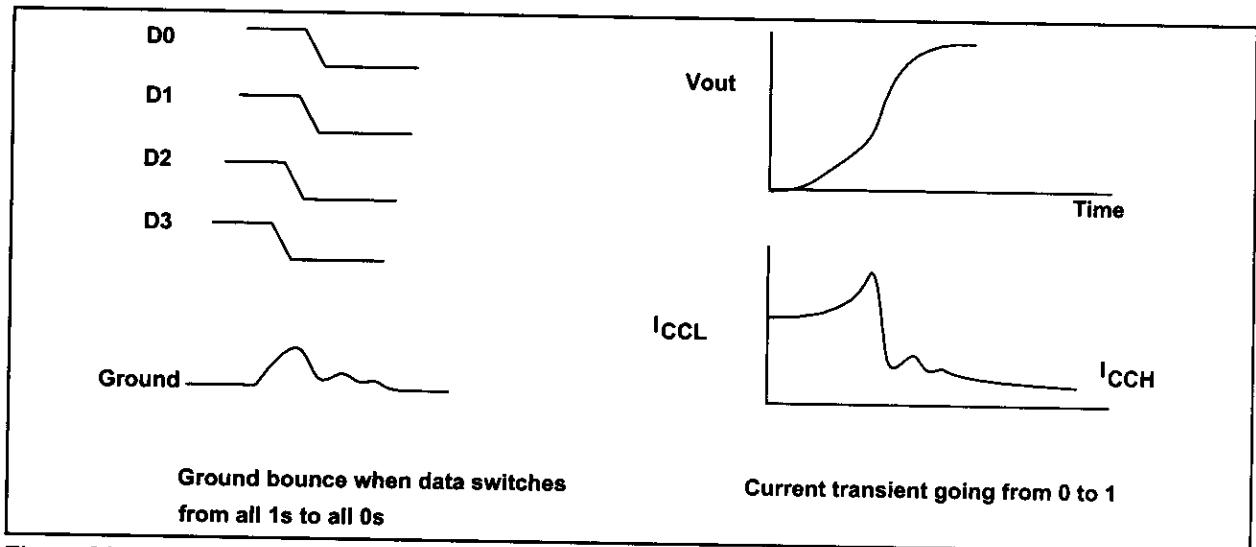

Figure 26-10. Ground Bounce and Transient Current for Output Transitions
2. Use logics with a minimum number of outputs. For example, a 4-output is preferable to an 8-output. This explains why many designers of high-performance systems avoid using memory chips or the drivers and buffers of 16- or 32-bit wide outputs since all the outputs switching at the same time will cause a massive flow of current in the ground pin, and hence cause ground bounce (see Figure 26-10).
In the TTL family, the change of the output from low to high can cause what is called *transient current*. In totem-pole output when the output is low, Q4 is on and saturated, whereas Q3 is off. By changing the output from the low to high state, Q3 becomes on and Q4 becomes off. This means that there is a time that both transistors are on and drawing currents from the V_{CC} . The amount of current depends on the R_{ON} values of the two transistors and that in turn depends on internal parameters of the transistors. However, the net effect of this is a large amount of current in the form of a spike for the output current, as shown in Figure 26-10. To filter the transient current, a $0.01 \mu F$ or $0.1 \mu F$ ceramic disk capacitor can be placed between the V_{CC} and ground for each TTL IC. However, the lead for this capacitor should be as small as possible since a long lead results in a large self-inductance and that results in a spike on the V_{CC} line [$V=L(di/dt)$]. This is also called V_{CC} bounce. The ceramic capacitor for each IC is referred to as a *decoupling capacitor*. There is also a bulk decoupling capacitor, as described next.